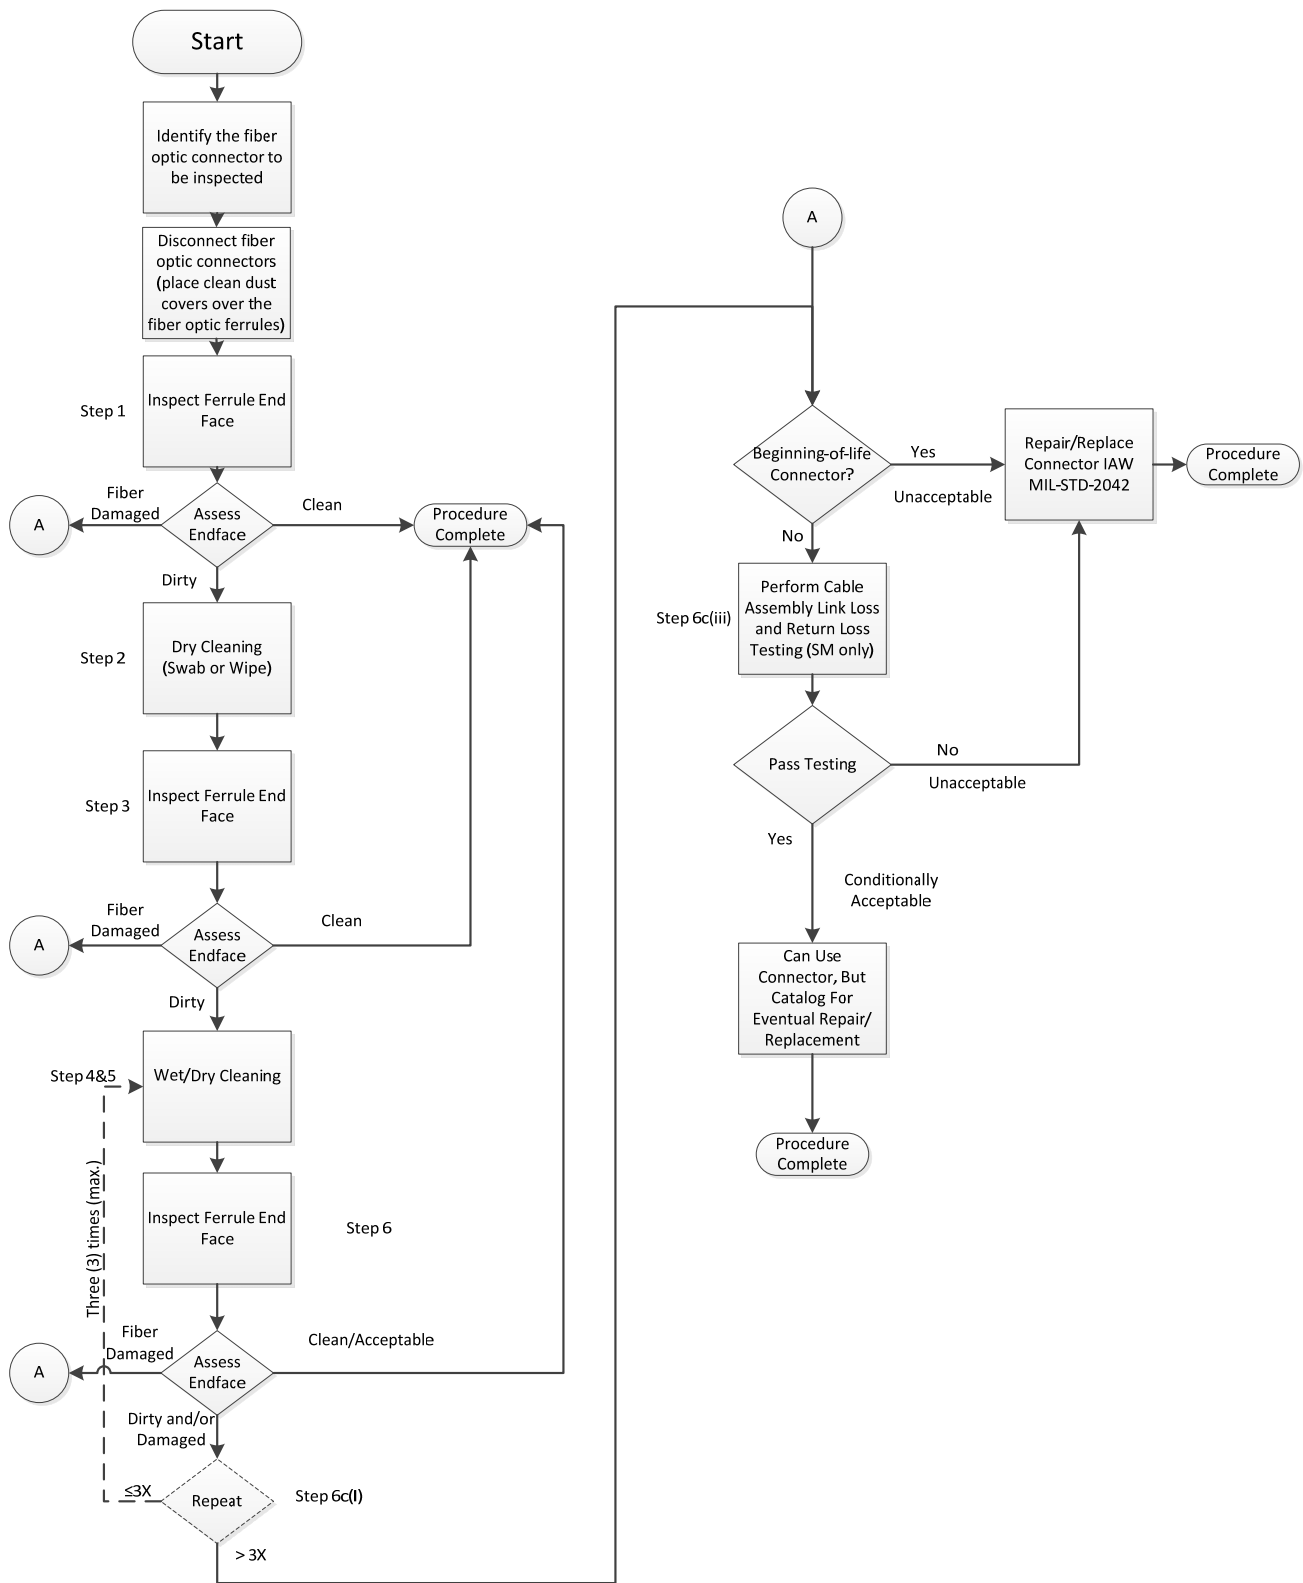

FIGURE 6M1-1. Inspection and Cleaning Flowchart.
Step 3 - Using the flowchart shown in FIGURE 6M1-1, perform the steps required to inspect and clean the selected mated pair.